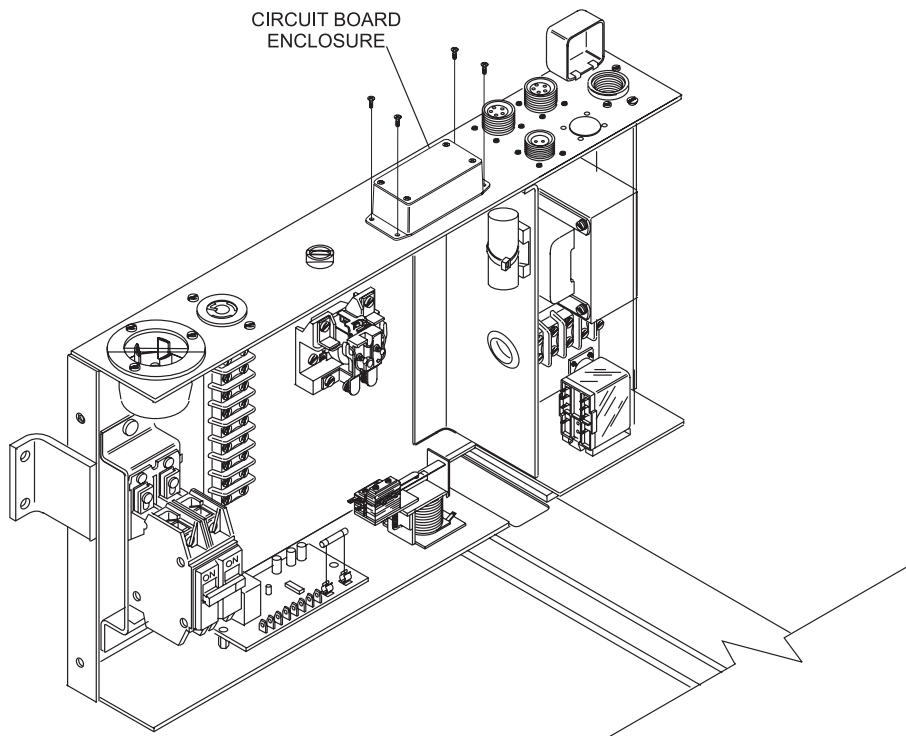

Figure 5
3. A possible location for the 5-pin indexing circuit board enclosure is on top of the electrical box (Figure 5). Using the 4 holes in the enclosure's flange as a guide, find a location where the #6 X 3/8" screws provided will not interfere with the components in the electrical box. Carefully drill four 1/8" holes and secure the enclosure. Refer to *Figure 5*.